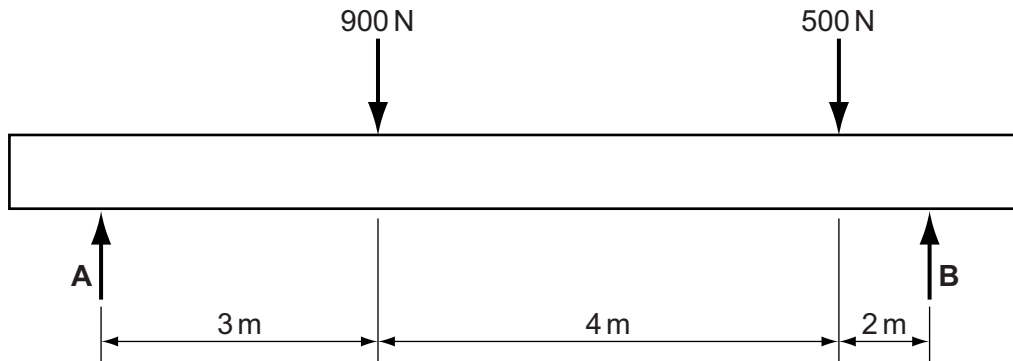

Fig. 13
- (ii) Fig. 13 shows a wooden beam that is loaded at two points. The beam is supported at points **A** and **B**.